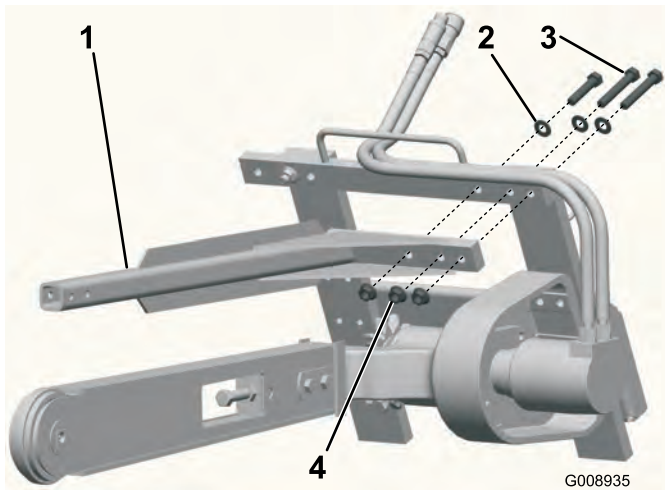

Figure 4
1. Remove the 3 bolts, washers, and flange nuts from the upper left corner of the trencher frame (Figure 4).
- Using the fasteners removed previously, install the trencher safety bar as illustrated in Figure 4.